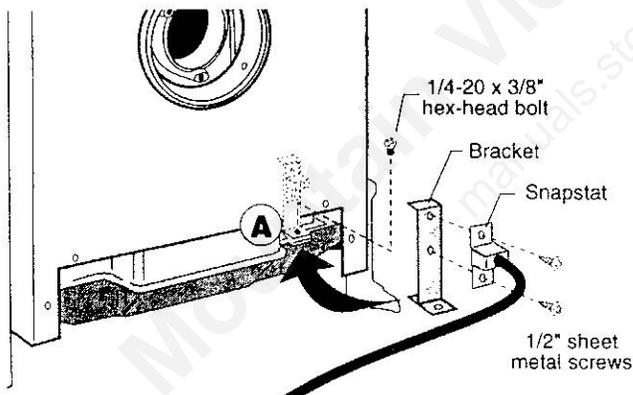

Figure 3-7. Snapstat assembly and installation.
1. Attach the Snapstat to the Bracket using two #10 x 1/2" phillips sheet metal screws as shown in Fig. 3-7.
2. Locate and remove the 1/4-20 x 3/8" hex head bolt installed in the hole in the right rear ledge of the firebox. (A) Fig. 3-7. Use that bolt to secure the Snapstat Bracket to the firebox. The mounting hole is slotted to allow you to adjust the bracket so that its head makes contact with the firebox surface. Fig. 3-7.